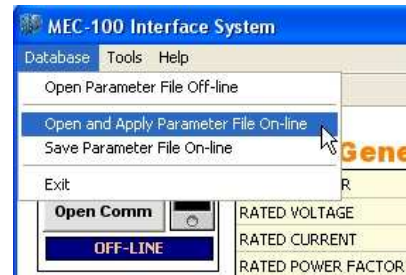

Fig. 5.6.2.a
- ❖ Click the *Database* button in the menu bar of the MEC-100 Interface System (see Fig. 5.6.2.a).